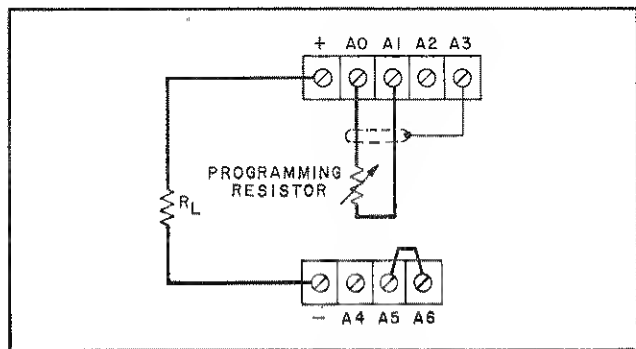

Figure 3-3. Remote Resistance Programming, Constant Current
3-19 Resistance Programming (Figure 3-3). In this mode, the output current varies at a linear rate determined by the remote resistance programming coefficient. This coefficient is different for each output current range, as shown in Table 1-1 of this manual. The programming coefficient is determined by the constant current programming current which is adjusted to $1\text{mA} \pm 0.25\%$ at the factory. If greater programming accuracy is required, it can be achieved by adjusting resistor R32 as outlined in Paragraph 5-66.
3-36 It is possible to simultaneously remote resistance program and externally modulate the dc current output simply by combining the strapping patterns of Figures 3-3 and 3-8 as follows:
- Connect remote programming resistance between terminals A0 and A1 as shown in Figure 3-3.